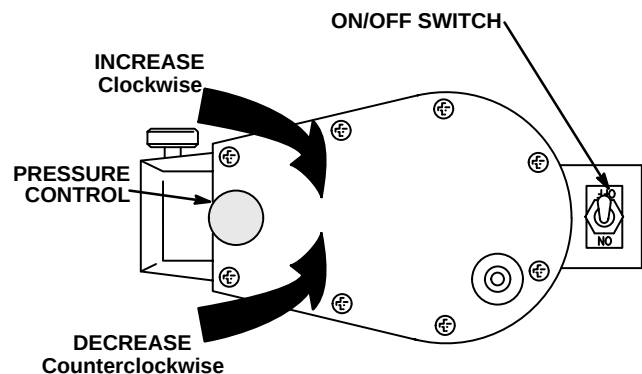

Fig 3 0270
- 8 **Plug in the sprayer.** Be sure the ON/OFF switch is OFF and the pressure control is turned fully **counter-clockwise**. See Fig 3. Use a grounded outlet that is at least 20 ft. (6 m) away from the spray area to reduce the chance of a spark igniting spray vapors or dust particles.